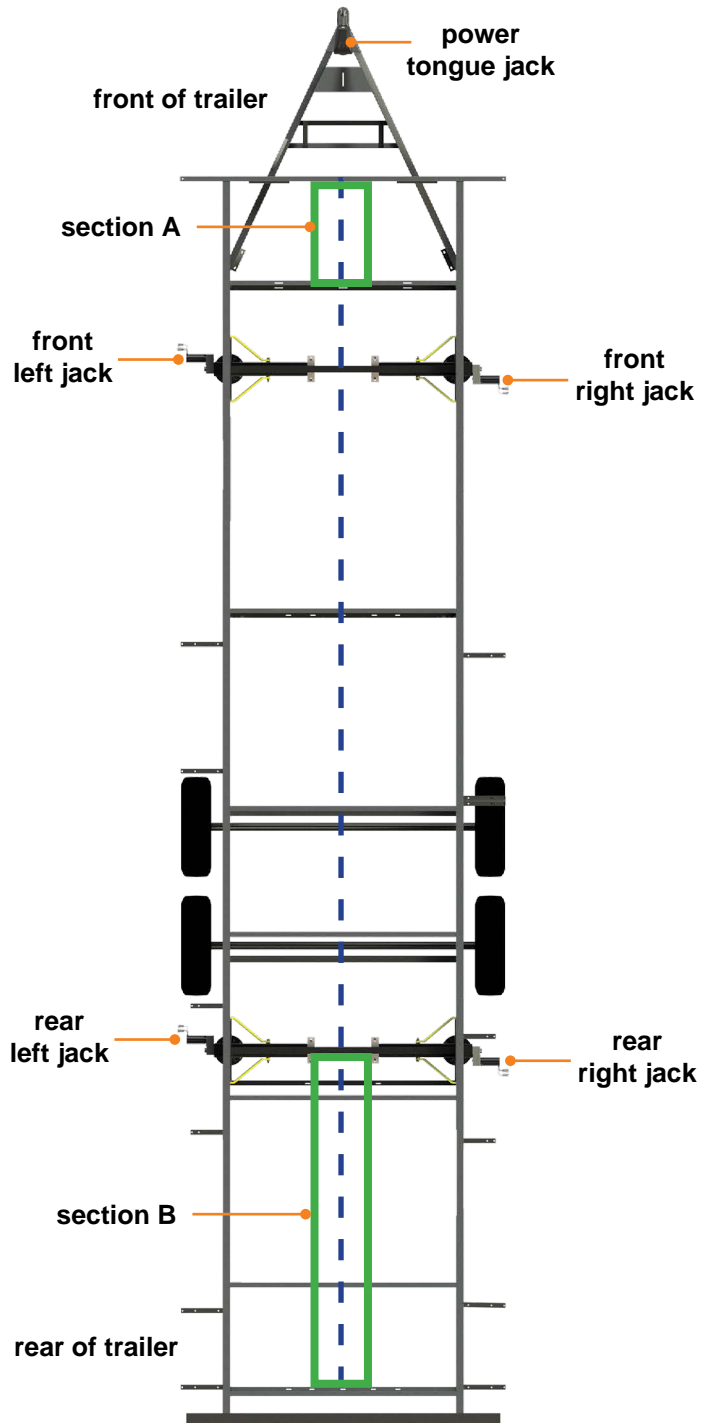

Fig.14
The leveling sensors have a limited mounting area for proper performance. The front sensor must be within 36" from the front of the frame as signified by section A in (Fig.14). Ensure that the front sensor is mounted in front of the front leveling jacks. The rear sensor must be in line with or behind the rear leveling jacks, as signified by section B in (Fig.14). Both the front sensor and the rear sensor must also be mounted in line with the center of the frame, as signified by the dotted blue line in (Fig.14).
The Leveling Sensors (**Fig.15**) must be oriented on the crossmembers with the arrows on the top of the sensor pointing in the correct direction (**Fig.16**). See (**Fig.14**), sections A and B, for location clarification.
3. Attach the mounting plate and sensor assembly (**Fig.19B**) to the crossmember (**Fig.19A**) using two #12 X 1" screws (**Fig.19C**). Ensure that the plate is centered side to side on the frame and that the sensor is oriented properly. See (**Fig.14**) sections A and B for location clarification.